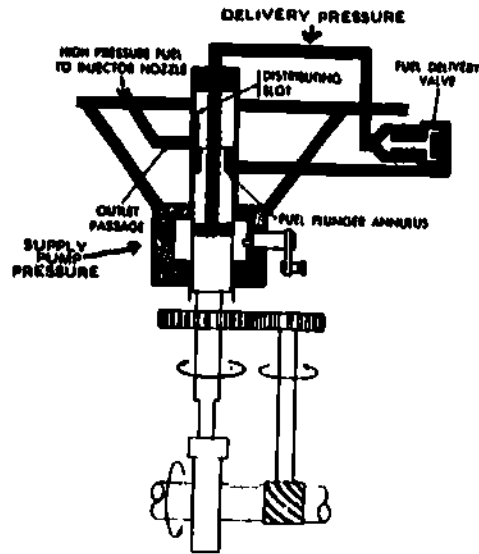

Fig 3-16. Delivery phase.
- (3) **Delivery** (fig 3-16). At the third or delivery phase the fuel is pressurized enough to fully open the delivery valve. High pressure fuel then flows around a groove out in the fuel plunger. This groove is called the fuel plunger annulus. From the plunger annulus the fuel flows up the distributing slot which is now aligned with the cylinder outlet passage. From the outlet passage, fuel travels through the high-pressure line to the injector nozzle and is injected into the cylinder.